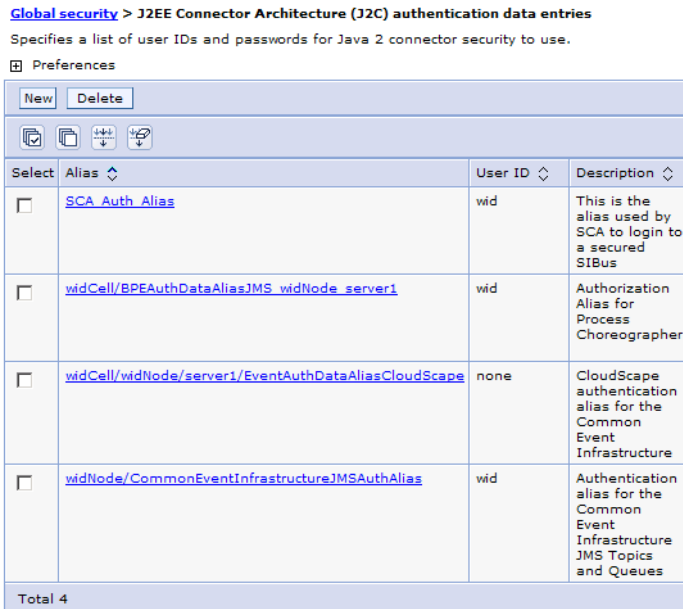

Figure 11-12 J2C authentication data entries
- ▶ Under *Authentication* (right side) expand *JAAS Configuration*, and select *J2C Authentication data*. You should see at least 3 alias entries with a user ID of *wid* (Figure 11-12).